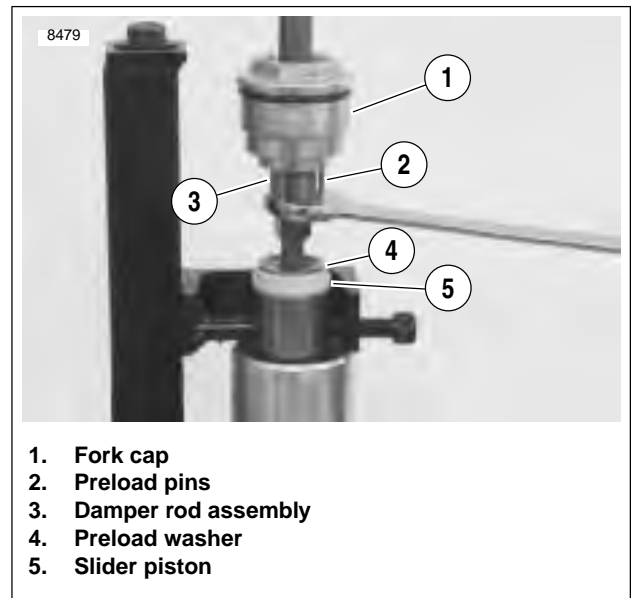

Figure 2-68. Holding Damper Rod Assembly
7. See Figure 2-68. Hold damper rod assembly (3) and remove fork cap (1).
20. See Figure 2-68. Install preload washer (4) and slider piston (5).
See Figure 2-68. Careful not to damage preload pins (2) while holding damper rod assembly (3).